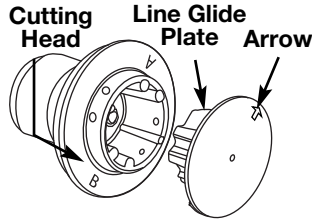

Fig. 15
2. Turn the knob counterclockwise to loosen the coupler (Fig. 15).
3. Reinstall line glide plate (Fig. 15). Align arrow with: